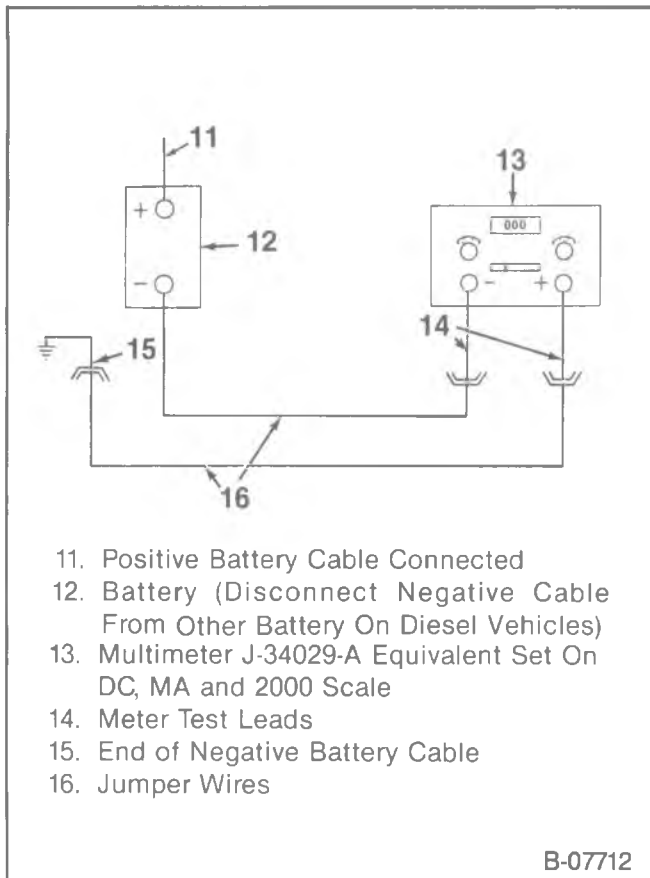

Figure 6—Battery Drain Test Circuit
3. Clip of a jumper wire to the negative battery terminal adapter (figure 6).